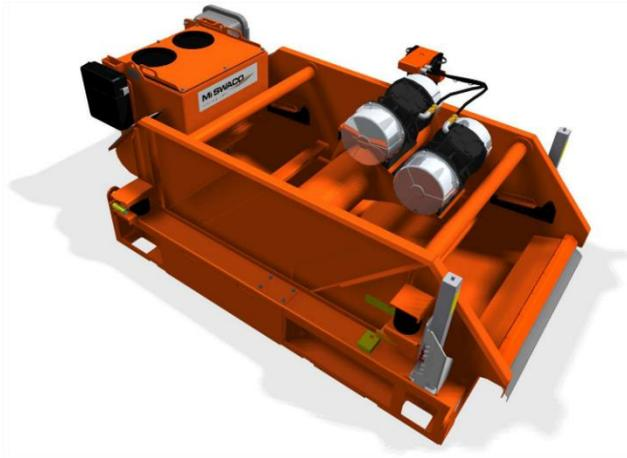

Figure 2. MONGOOSE PRO with Carbon Steel Header Box
- The fluid distribution system is at the rear of the shaker basket and is mounted above the screen deck (Refer to Figure 2).